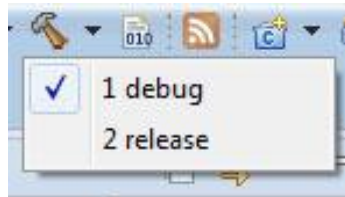

Figure 6 - Build targets
3. Choose build target by clicking on the arrow to the right of the “hammer” in to toolbar, see Figure 6. When the target has been selected the project will be built. If target has previously been selected it is enough to click on the “hammer” icon.